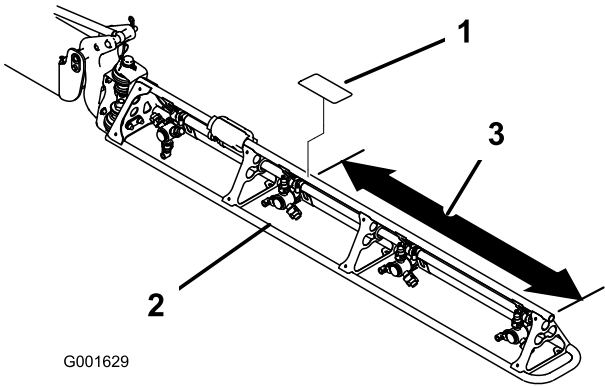

Figure 35
3. Remove the backing of the new decal and place onto the boom (Figure 35).
1. Measure from the end of the booms as shown in Figure 35.